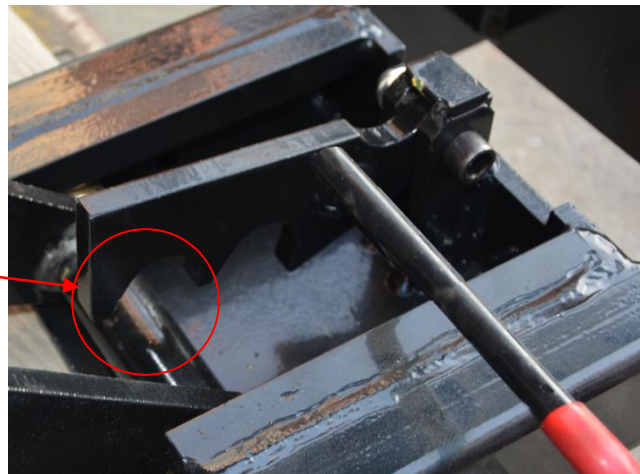
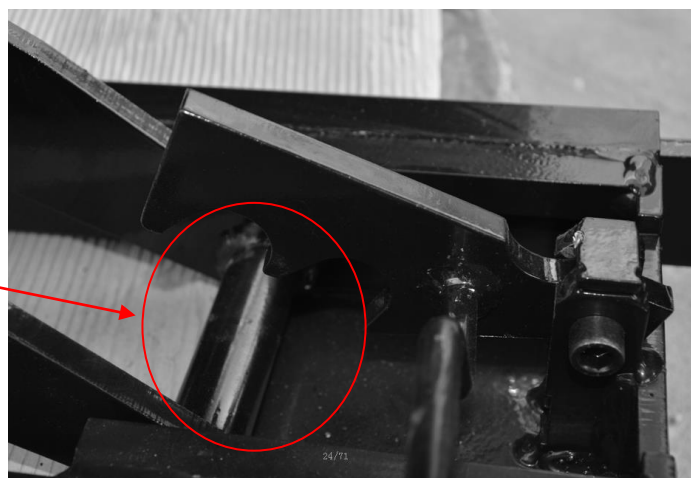

Fig. 7
Fig. 8
3.1 Raise the Jack for few seconds to release the safety device, and then open the safety device (Fig. 7, Fig. 8)